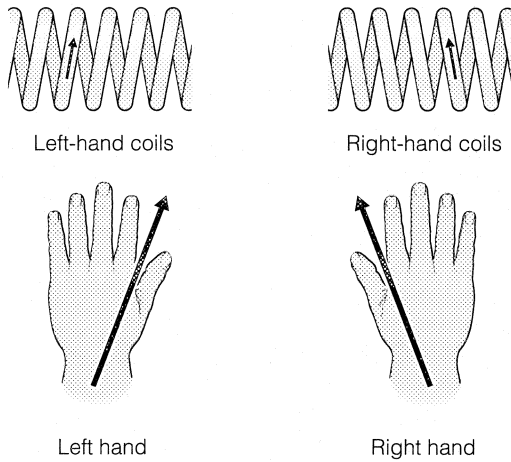

FIGURE 18.3 Left-Hand and Right-Hand Springs
If dictated by design requirements, the direction of helix is specified as **LEFT-HAND (LH)** or **RIGHT-HAND (RH)**. Otherwise, the direction of helix is specified as **OPTIONAL**. Usually, the direction is not important, except when a plug is screwed into the end or when one spring fits inside another. In the latter case, one spring is designated left-hand and the other spring right-hand. Figure 18.3 shows how the coils look for right-hand and left-hand springs: When you look at the back of your hands, the spring will be coiling either to the left or to the right.